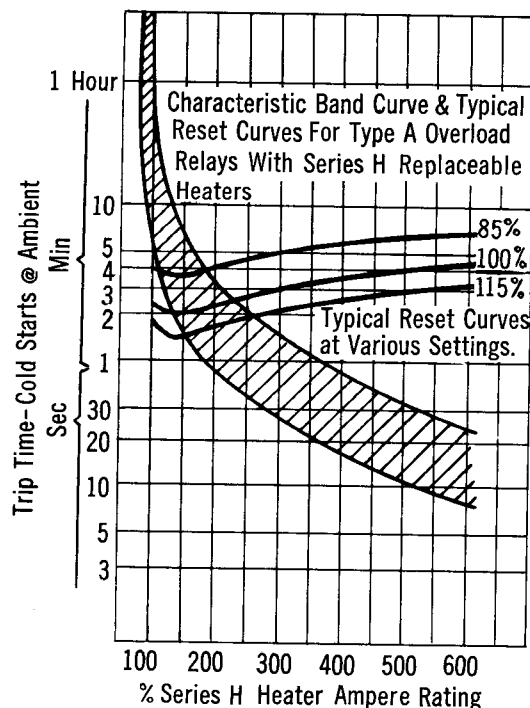

Figure 3 - Time-Current Trip and Reset Curves
The current of an overloaded motor increases the heat generated in the heater sufficiently to cause the actuating bimetal (4) to bend. This bending, results in the operation of the control switch which in turn causes the motor to be disconnected from the line. When ambient compensated, two bimetals operate thermally in parallel. The differential movement between these two bimetals due to an overloaded motor electrically heating the actuating bimetal again results in the operation of the control switch. The time required for the relays to trip depends upon the size of the overload, the greater the overload the shorter being the trip time. This is indicated in the characteristic curve, Figure 3. This curve applies when operating over wide variations in ambient when using ambient compensated overload relays and using the heater ratings